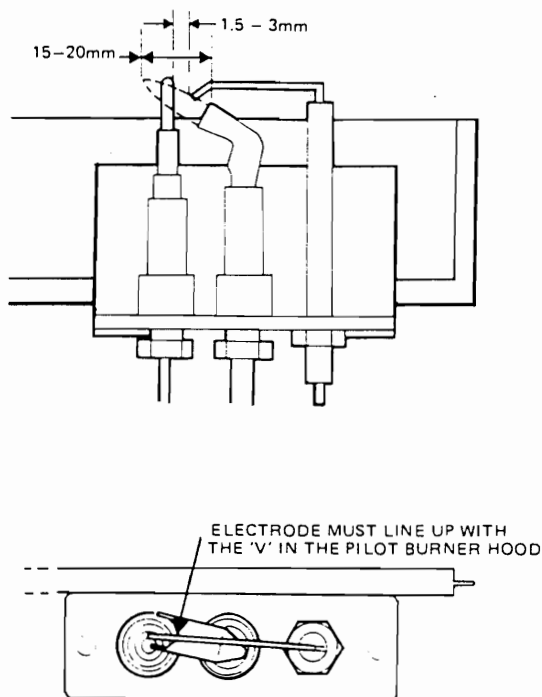

Fig. 17
1. The pilot flame impringes on the thermocouple, relative to the pilot burner and the main burner, is as shown in Fig. 17.
2. The pilot flame covers 13mm ($\frac{1}{2}$ in) of the thermocouple tip and is of the correct size (Fig. 17).
4. Fit the new electrode and re-assemble in reverse order, ensuring correct positioning of the electrode tip, refer Fig. 17.